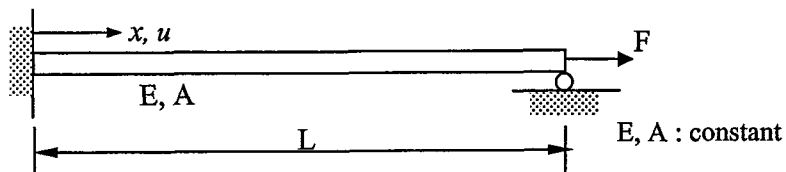

Figure 2
- (b) Derive the governing differential equation for the 1D bar problem shown in Figure 2. Make use of the sets of equations in 1(b) together with the general constitutive equations for a homogeneous isotropic body derived in 1(a).